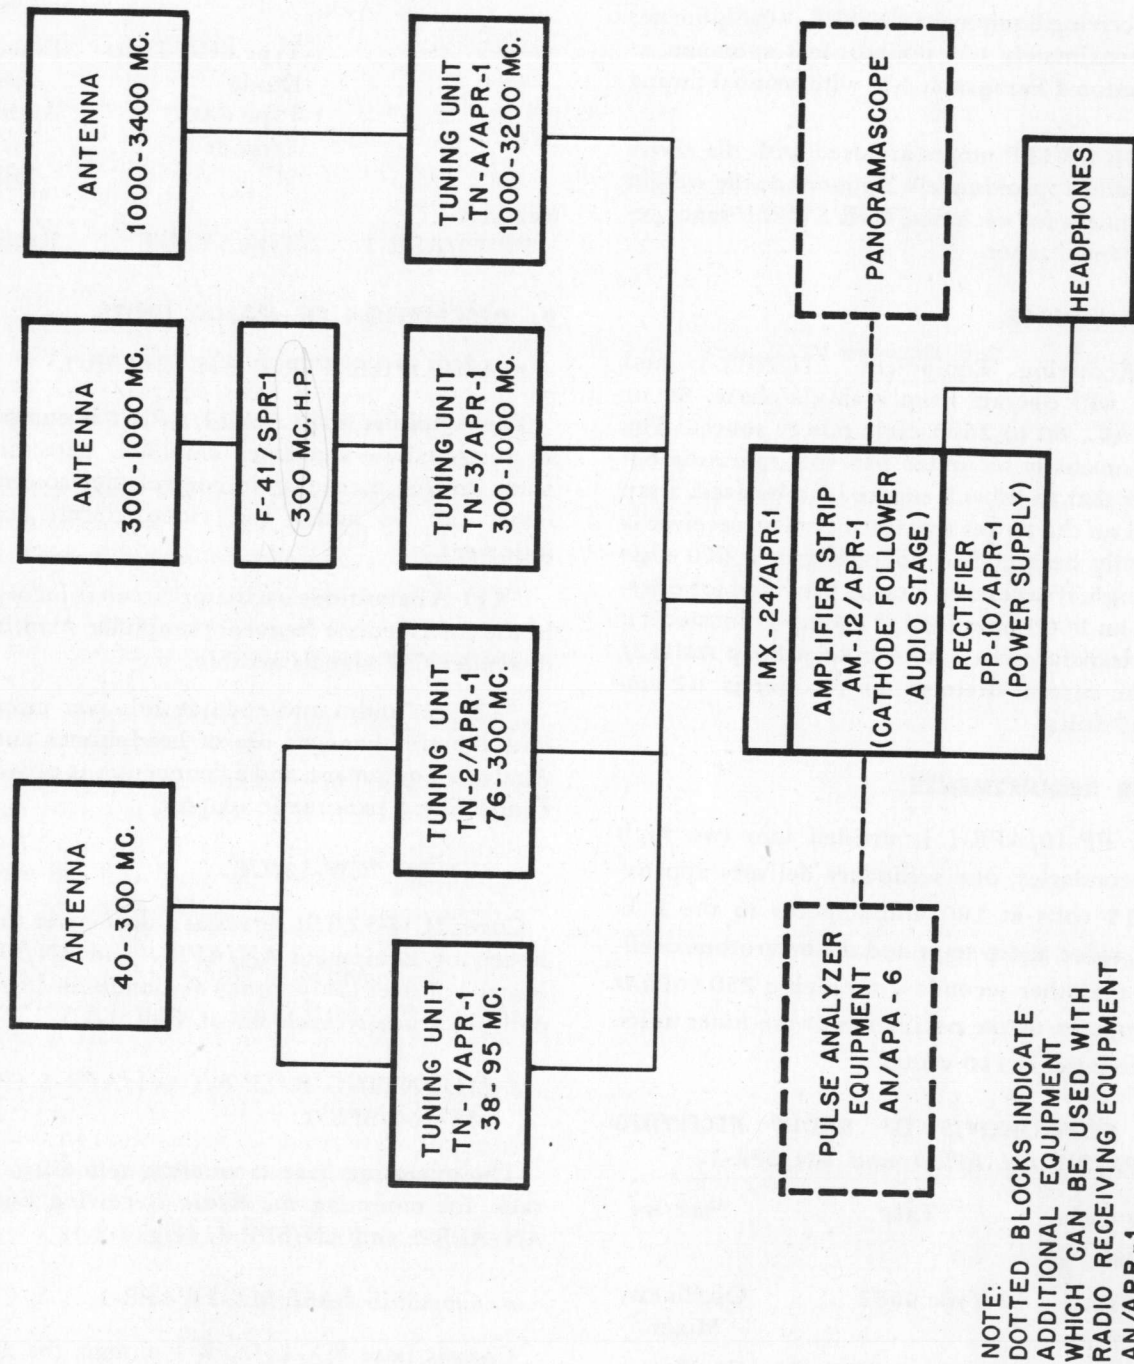

Figure 1-2. Radio Receiving Equipment AN/APR-1 Block Diagram.
(1) Type AT-37/APT or AT-37A/APT Stub Antenna; Fig. 1-3 and 1-4, consists of a phenolic impregnated maple mass 22.5 inches in length which has been plated with a thick layer of metal and mounted in a rectangular mount. The radiating metal plated area is connected to a type C-49269 receptacle for connecting to a 50 ohm coaxial cable, type RG-8/U. This type antenna will be used with Tuning Unit TN-1/APR-1 and TN-2/APR-1. (Fig. 1-2.)
(2) The type AS-26/APR-2 Cone Antenna (Fig. 1-5), will be used to cover a frequency range from 300 to 1000 megacycles and is used with Tuning Unit TN-3/APR-1. (Fig. 1-2.)